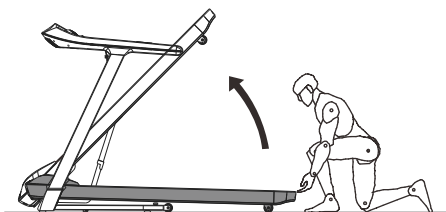

Figure 1
1. Fold the treadmill: Folding the treadmill to save space. Before folding, turn off the power switch, unplug the power plug, and lift the treadmill by hand until the treadmill is stuck into place. (Figure 1)
Bend your knees slightly, slowly bend your body forward, relax your back and shoulders, and try to touch your toes with your hands. Hold for 10-15 seconds, then relax. Repeat 3 times (see Figure 1).